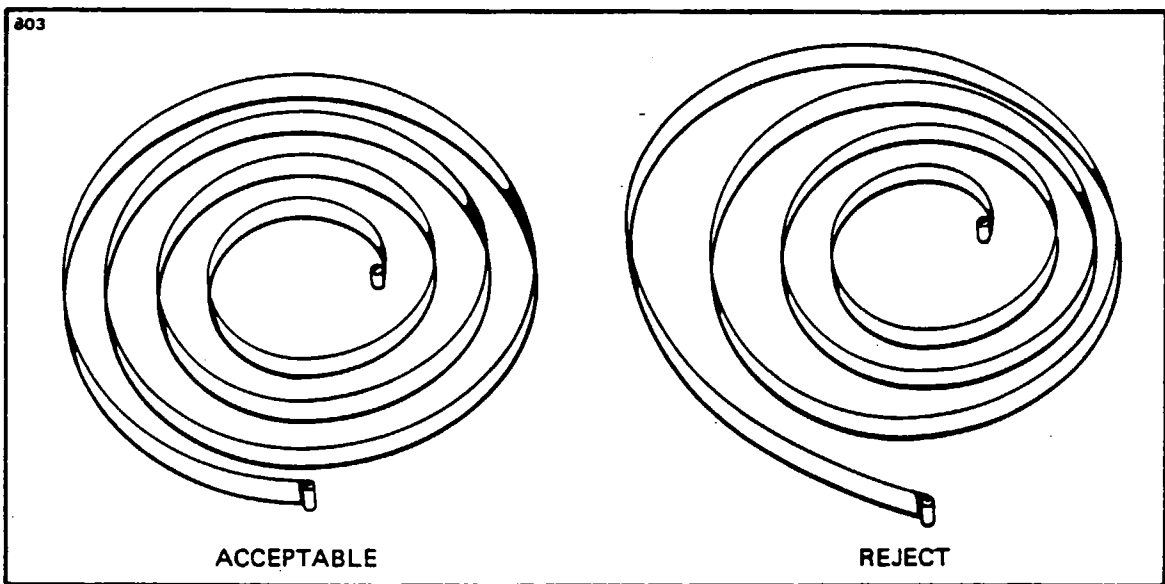

Figure 8-23. Acceptable and Deformed Coupling Springs
h. With spring released and free, it should form a smooth spiral curve with no sharp bends or flat spots. (Refer to Figure 8-23.) If spring is deformed, replace it.